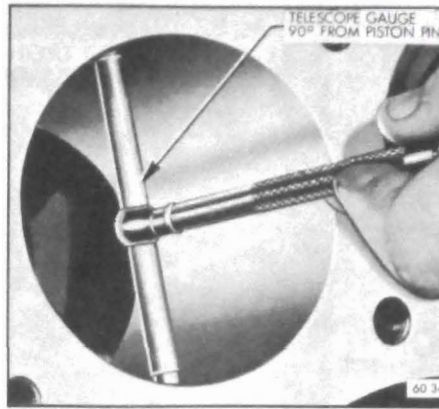

Figure 60-141 - Checking Cylinder Bores
1. Expand a telescope gage to fit the cylinder bore at right angles to the piston pin 2-1/2" from top. See Figure 60-141.